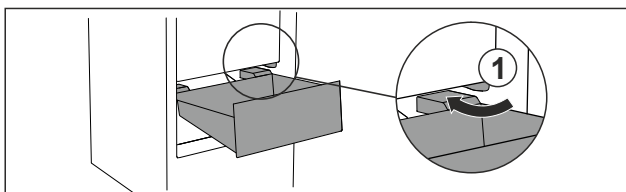

Fig. 87
- Guide drawer in at an angle around the stoppers Fig. 87 (1).